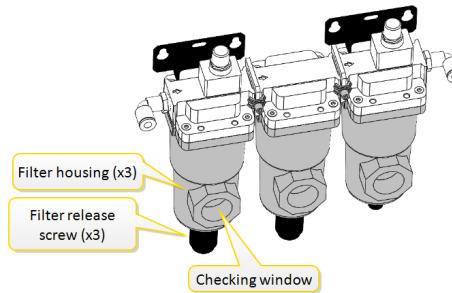

Figure 4-25 Checking the pneumatic filter for water or oil
2. Check if the filter housing contains droplets of air or oil, see in **Figure 4-25 on the next page**.